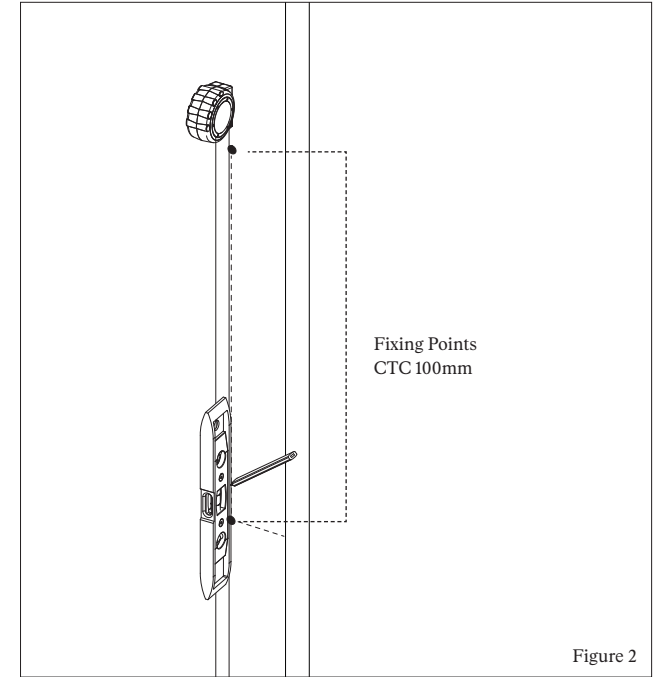

Figure 2
- 1.3 Using a spirit level, mark the bottom fixing point — noting the CTC measurement is 100mm starting 50mm up from base of pull handle. (Figure 2)
- 3.1. Drill holes through door at the fixing points marked in step 1.3. (Figure 2)
- 4.1. Drill holes through door at the fixing points marked in Figure 2.